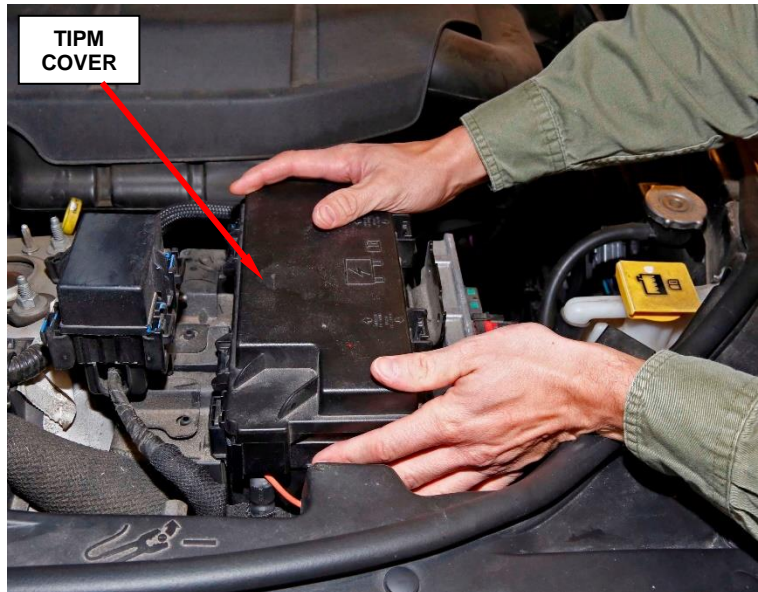

Figure 36 – Install TIPM Cover
39. Carefully install the TIPM access cover (Figure 36).